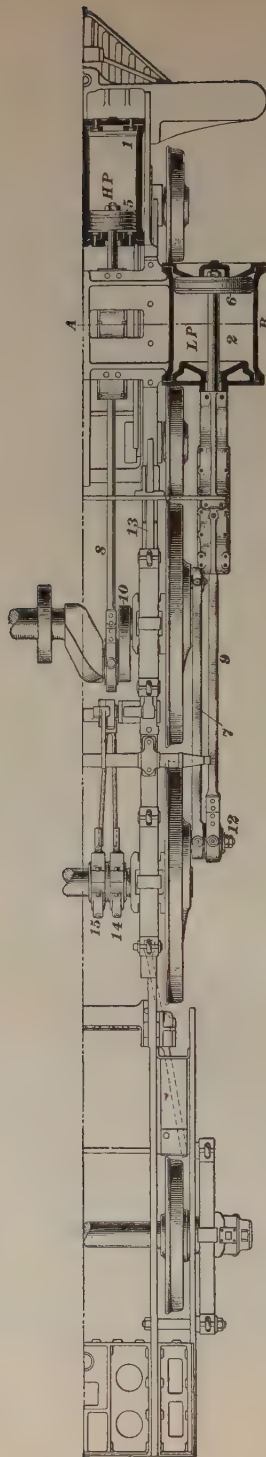
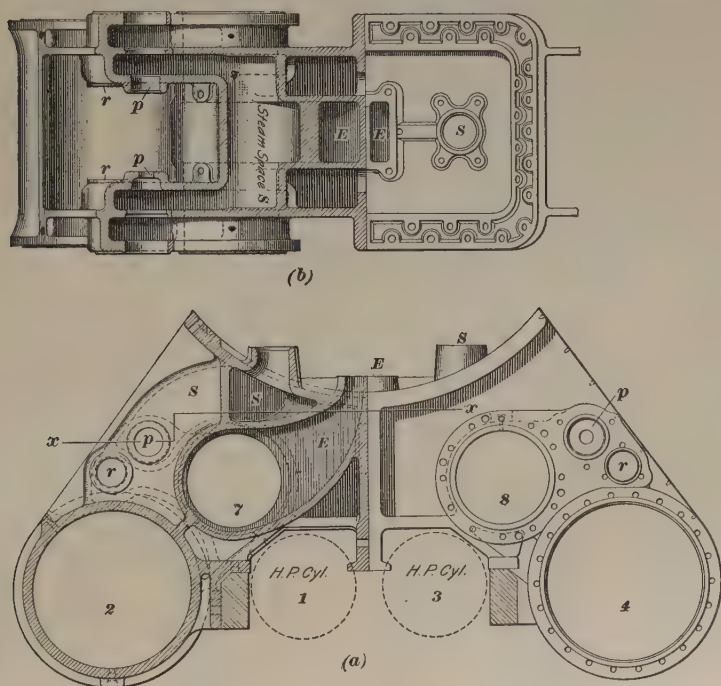
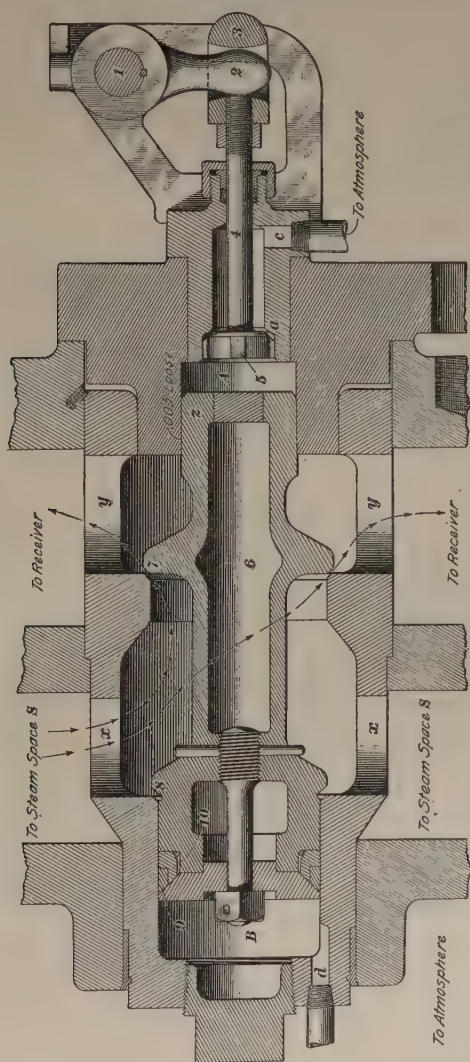
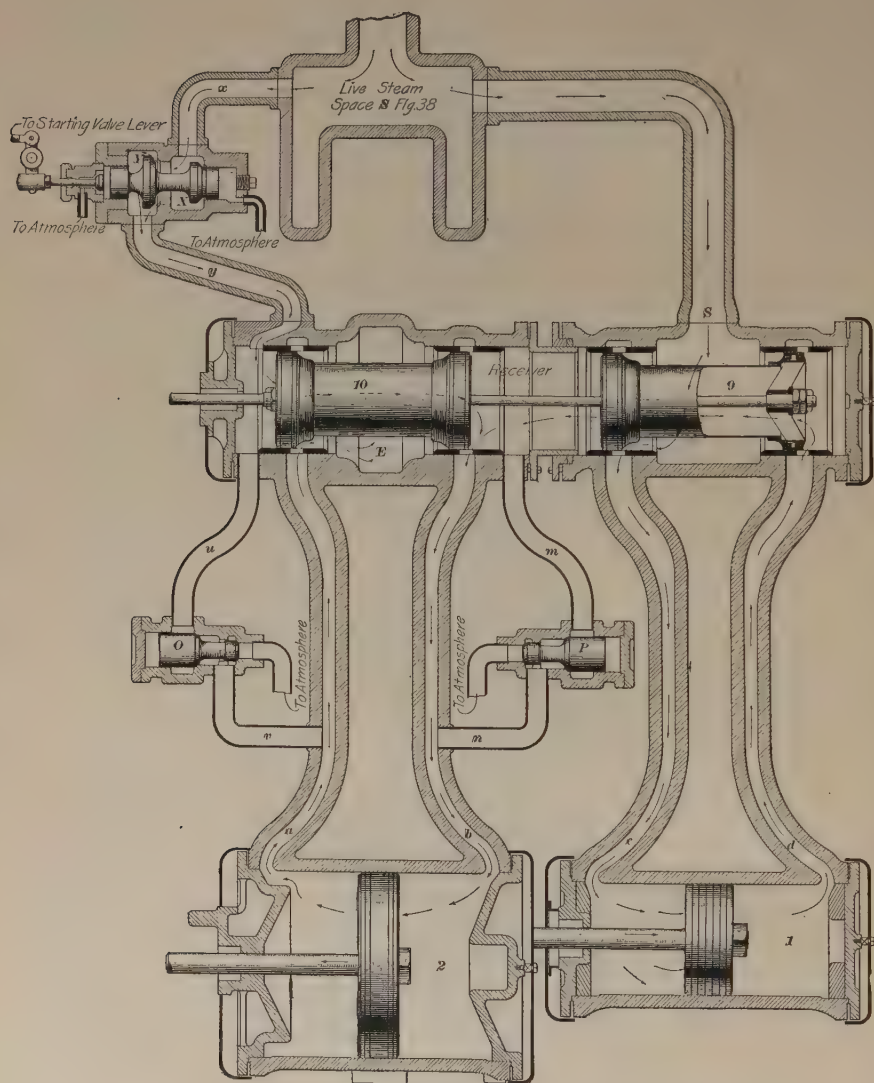

FIG. 37
FIG. 38
FIG. 41
FIG. 42
wheel centers of the back pair of drivers. The high- and low-pressure pistons on each side are connected to cranks 180° apart so that as one piston is making a forward stroke the other is making a backward stroke and are thus balanced. The engine on the left side of the locomotive is 90° or one-quarter of a turn behind the one on the right side, so that when one side is on the center and developing no power to turn the driving wheels, the other side is on the quarter and developing its greatest power. This arrangement brings the four crankpins exactly 90° apart on the axles. The position of the high-pressure cylinders relative to the low-pressure cylinders is shown in Fig. 37, which is a plan view of the right side of the locomotive. The valve chest is located exactly above the frame and above the two cylinders on that side; it is not shown in the figure, but its position is shown in Fig. 38, which gives a sectional view of the right half and end view of the left cylinders and valve chamber. It also shows the arrangement of the steam passages, frame, and the location of the high-pressure cylinders. The illustration, Fig. 38, is taken looking from the front of the engine backwards. Referring to Fig. 37, 1 and 2 are the high- and low-pressure cylinders, respectively; 5 and 6, their pistons; 8 and 9, the main-rod connections; 10 the crankpin connection for the right-hand high-pressure piston, and 12 the main pin for the right low-pressure piston. The valve rod for the right side is shown at 13, the forward-motion eccentric straps at 15, and the backward motion straps at 14.
Fig. 38 shows an end elevation and section in which 3 and 4 are the ends of the left-side high- and low-pressure cylinders; 1 and 2, the high- and low-pressure cylinders on the right side; 7 and 8, the valve chambers for the two sides as shown. The left side of the cylinder saddle is shown in full; the right side is sectioned on the line *AB*, Fig. 37, and the front part removed, so that the high-pressure cylinders are not seen.
67. Details of Starting Valve.—The combined starting valve and reducing valve used with this engine is shown in Fig. 41, in which 5 is the starting valve and 6 the reducing valve. The starting valve 5 forms a steam-tight seat at *a* and controls communication between chamber *A* and the atmosphere through the passage *c* and the drip pipe. The valve is connected to the valve rod 4, which is provided with a yoke 3 by means of which the valve is opened and closed. The lever 2 is secured to the shaft 1, which is connected to a lever in the cab by means of which the shaft is rotated in either direction. Moving the lever 2 forwards opens valve 5; moving it backwards closes the valve.
68. Operation of Starting Valve.—The starting valve and its connections are shown diagrammatically in Fig. 42. It will be seen that chamber *x*, Fig. 41, is directly connected to the live steam space *S*, Fig. 38, by the passage *x*, Fig. 42,
71. Working Compound.—When this type of locomotive is started compound, the starting lever in the cab is in such a position that the starting valve 5, Fig. 41, is closed. Steam entering the live-steam space *S*, Fig. 42, passes through the reducing valve as indicated by the arrows. The reducing valve, with starting valve closed, maintains about 50 pounds in the receiver, so that the low-pressure cylinder is provided with live steam at that pressure with which to start the engine.
72. Starting Simple.—In starting a heavy train or in starting a train on a grade where the full power of the engine is required, the starting lever in the cab should be moved so as to open valve 5, Fig. 41. This maintains chamber *A* at atmospheric pressure so that 80 pounds pressure is obtained in the receiver through the reducing valve, which gives the locomotive a much greater starting force than is obtained from compound position.
79. Two Heavy Exhausts.—Two heavy exhausts from a side indicate too high a receiver pressure. This may be due to: The valve ring 5, 6, 7, or 8, Fig. 42, leaking or being badly broken, or to the starting valve or by-pass valve leaking; to the high-pressure piston packing rings being badly worn or broken; or to a loose high-pressure bushing. Therefore, if two heavy exhausts occur on a side, test that side for the above defects.
80. Two Light Exhausts.—Two light exhausts from the side indicate either a low receiver pressure or badly worn or broken valve packing ring 1, 2, 3, or 4, Fig. 42, which will allow receiver steam to escape to the exhaust, producing a blow; or to a loose low-pressure valve bushing. Do not
81. One Heavy Exhaust.—If the exhaust beats occur at the proper intervals, but one exhaust on a side is heavier than normal, it indicates that the end of the low-pressure cylinder on that side is receiving a greater volume of steam than it should; this will be due to a broken low-pressure valve ring 1 or 4, Fig. 42. The heavy exhaust will be followed, after a short interval, by a direct blow from the receiver on the exhaust, which will continue until the exhaust port is closed at compression. A slipped eccentric will cause one heavy and one light exhaust, but the exhaust beats will not occur at proper intervals.
82. High-Pressure Valve.—To test a high-pressure valve, place the low-pressure main pin on that side of the engine on the bottom quarter with the reverse lever in the center notch so that the valve will be in mid-position and covering the steam ports to the high-pressure cylinder. Block valve 6 of the starting valve, Fig. 41, closed so as to keep steam out of the receiver; block the drivers or set the brake, remove the indicator plugs or open the cylinder cocks to the high-pressure cylinder, and then open the throttle. Steam blowing from either indicator-plug or cylinder-cock opening indicates that the ring 6 or 7, Fig. 42, at that end of the high-pressure valve is blowing.
the ring 1 or 4, Fig. 42, at that end of the low-pressure valve is blowing.